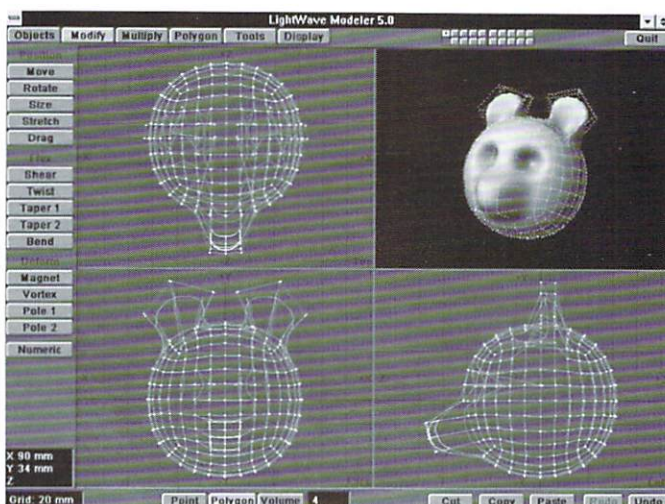

Figure 3
•Next, we'll want to pull out some polygons to form the bear's "muzzle." Grab the four polygons that would form the front face of the muzzle (Figure 3). In the Left View, move the selected polygons down and to the left (0 mm, -6 mm, -32 mm). Again, certain points need to be adjusted to improve the overall shape of the muzzle. Grab the point at the front top center of the muzzle, where the nose would go, and in the Left View, move it up and to the left (0 mm, 8 mm, -12 mm). Next, select the two points at the bottom corners of the front muzzle polygons. Use the Stretch Tool in the Face View, placing the cursor between the two points on the Y-axis, and while pressing the left mouse button, dragging the cursor to the right. Numerically, you can enter these values: